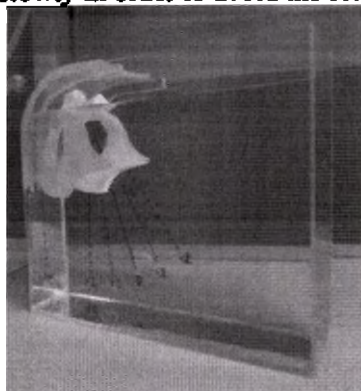

Figure 41. Filling the simulator with water.
1.1.2. Fill it with water until it reaches the height of the pelvic bones (Fig. 41).